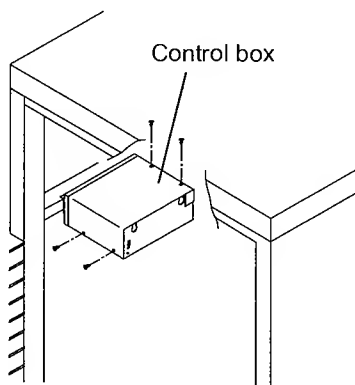

Fig. 3
3. Loosen 2 upper screws and remove 2 screws on the right, and remove control box cover. (Fig. 3)
4. Remove 4 fixing screws on the control box to remove the control box cover. (Fig. 3)
4. Set the chart according to the mark of day and time. (Fig. 3)